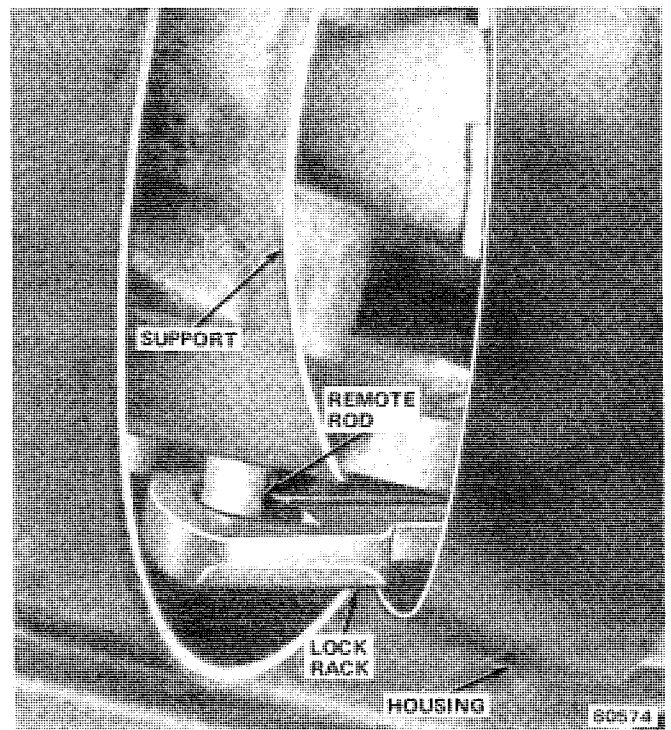

Fig. 2J-52 Housing Removal
(27) Raise tilt lever to disengage lock shoes and remove housing (fig. 2J-52). Pull housing upward to disengage shoes and turn housing to one side to separate lock rack from remote rod.